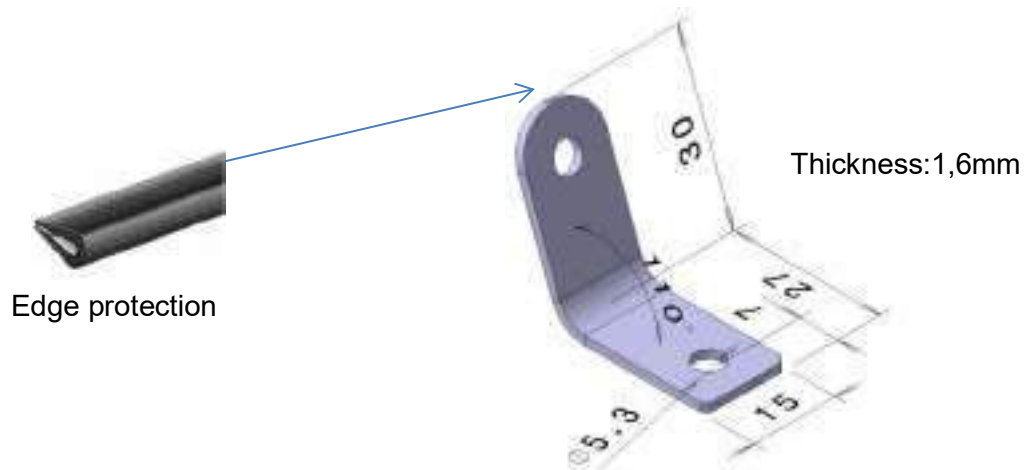

Figure 1: Example of Aluminum Angular Bracket
- (1) Buy or build four angular brackets that match the dimensions shown in Figure 1 and that can be attached to the door hook attachment screws. It can be made of sheet metal or aluminum profile with a thickness of at least 1,6mm and max 2,0mm
- (2) When building it of sheetmetal make sure to respect the minimum bending radius with regards to the kind of aluminum alloy, thickness, hardening condition as it is given by the respective standard.